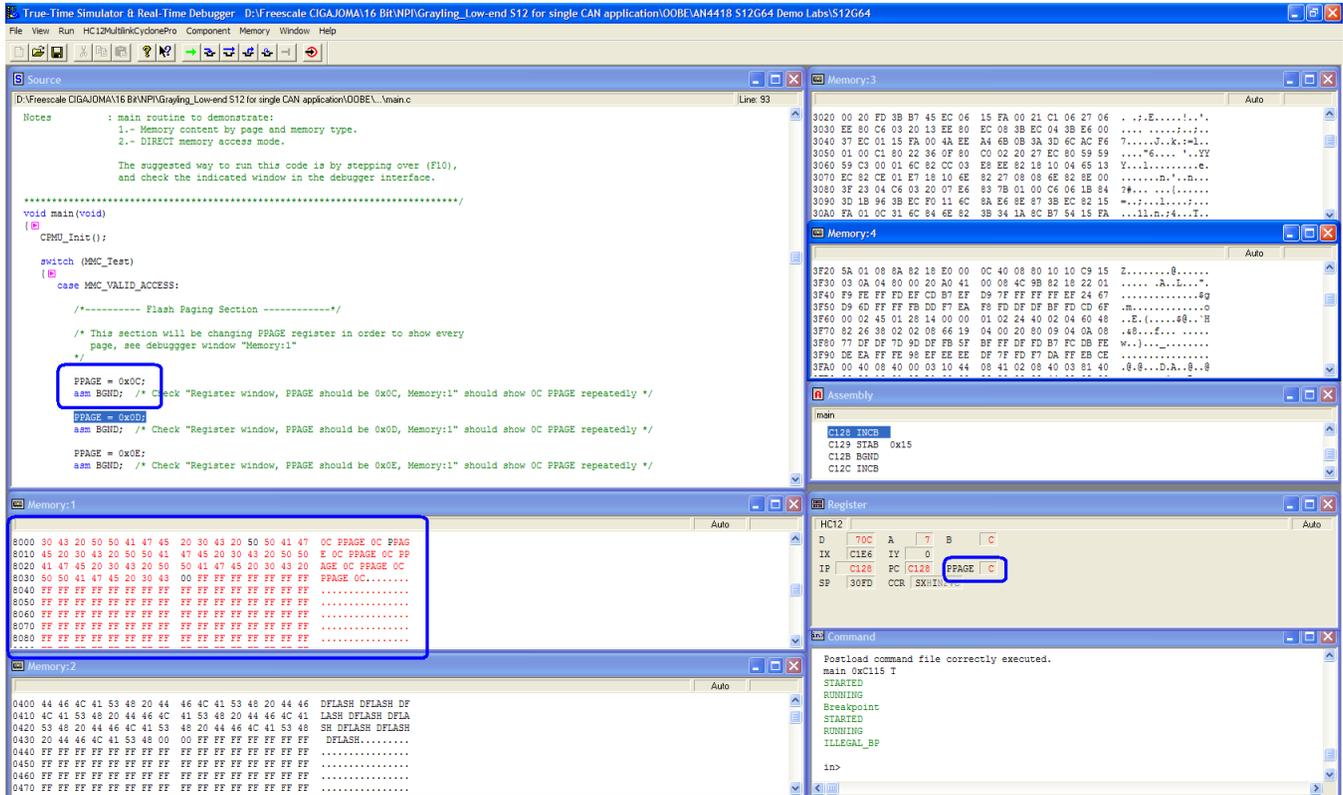

Figure 3. Page 0C shown on PPAGE
- a. After the code has been downloaded to TWR-S12G64 board, click Run and the debugger will stop after the BGND instruction is reached. In Figure 3, in the debugger, the Memory:1 window shows the current page content starting from 0x8000 and at Register window, the PPAGE register shows 0x0C.